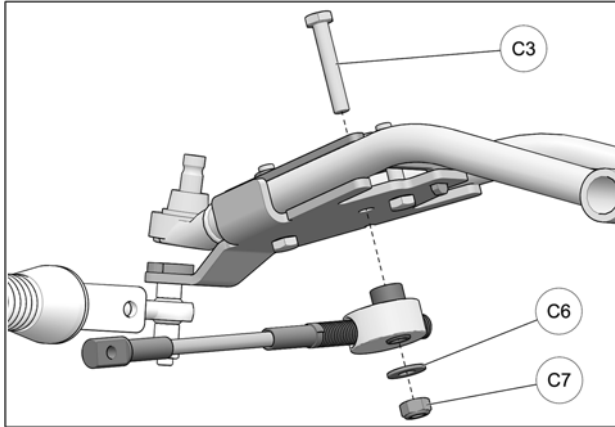

Fig. 18
12. Pass bolt (C3) down through opening in bracket cover and insert it in the anchor bracket's middle hole. Slide steering limiter cable assembly up over bolt (C3) and use washer (C6) and nut (C7) to secure assembly to anchor bracket. Tighten nut to 50 N•m [37 lb•ft]. See Fig. 18